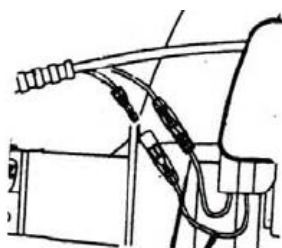

Fig.6
5. Connect 2 lead wires from the throttle trigger to the corresponding 2 wires from the engine. Fig.6
As Fig. 6, one lead wire which is from the throttle trigger to mount with stop switch wire which comes from the engine.